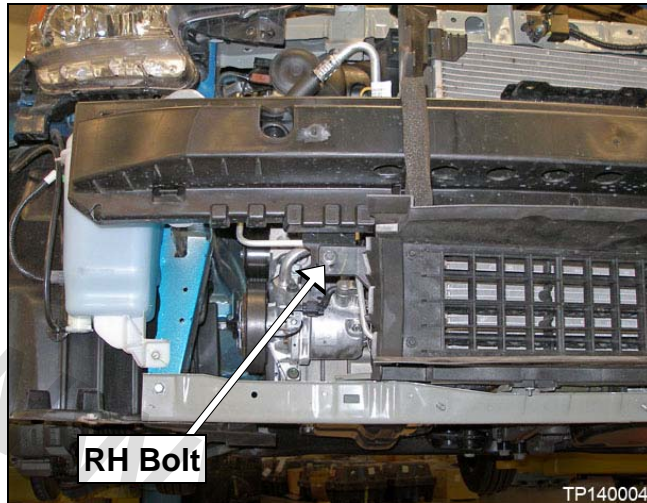

Figure GS4
- a. Remove the two (2) bolts, one at each side (see Figure GS4 and GS5).